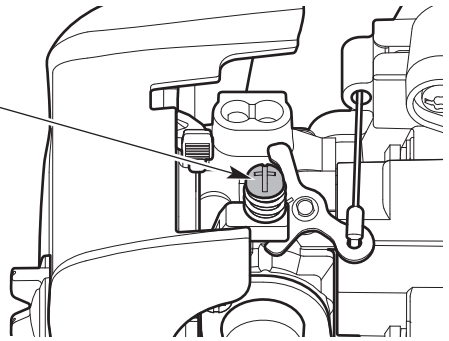

Fig. 22
- If the engine stops, increase the idle speed. Use a small Phillips screwdriver to turn the idle speed screw clockwise, 1/8 of a turn at a time, until the engine idles smoothly (Fig. 22).
- If the blade spins when the engine idles, reduce the idle speed. Turn the idle speed screw counterclockwise, 1/8 of a turn at a time, until the blade stops moving (Fig. 22).